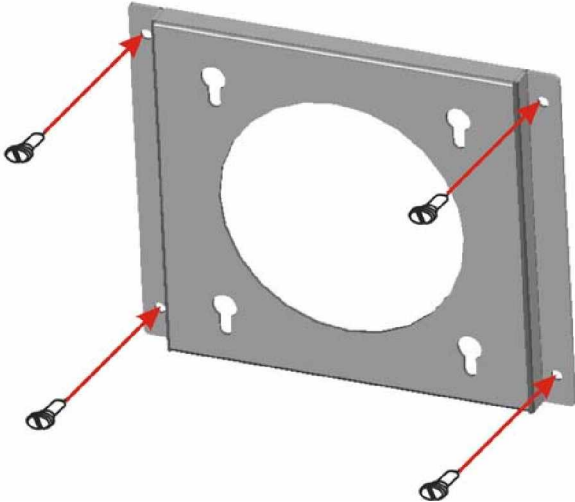

Figure 3-4: Wall-mounting Bracket
5. Insert the screws into the four retention screw holes (see **Figure 3-4**).